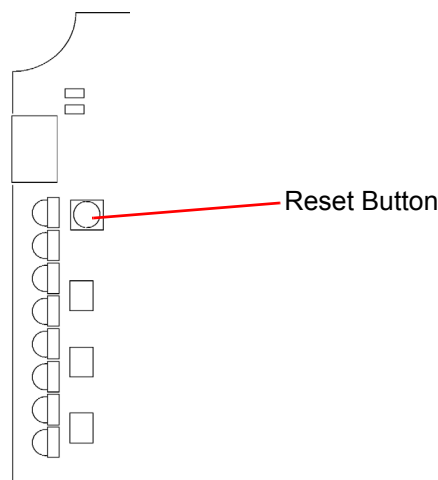

Figure 90 Nucleus2 Router Controller Reset Button Location (Front Edge Shown)
- Press the **Reset** button on the front of the Active Nucleus2 controller, see Figure 90 for the location of the **Reset** button.
- Press the Reset button on the front of the Active Nucleus2 controller, see Figure 90 for the location of the **Reset** button.